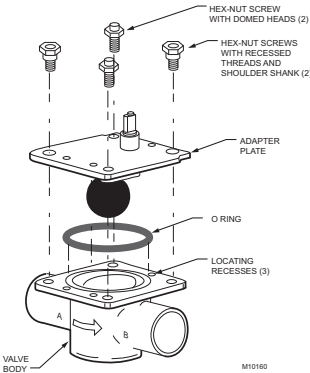

Fig. 3. Install 40003918 conversion kit.
5. Install 40003918 Conversion Kit (See Fig. 3).